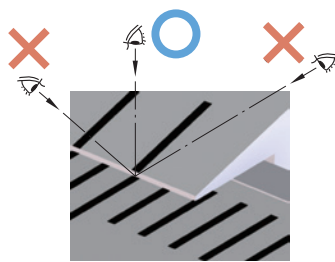

Fig. 4
1. Read the scale graduations from directly above the dial to avoid parallax error. (Fig. 4)